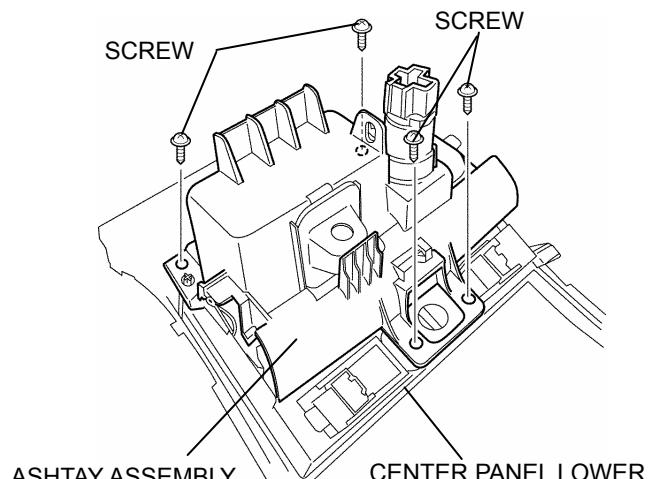

FIGURE 13
3. Remove the screws, then remove the ashtray assembly. (refer to Figure 13)